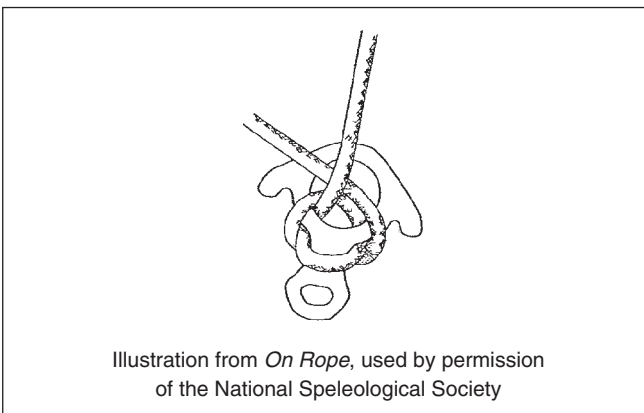

Figure 6f—Locking off the figure-8 descender—second bind.
- D. Continue to secure the lockoff by bringing the running end below the ears and underneath the waist of the figure-8 descender. Wrap the running end of the rope around the descender two or three times (figures 6f and 6g).